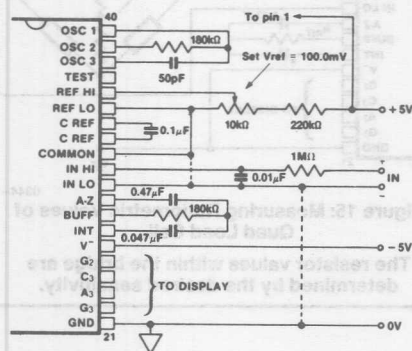

Figure 10: 7137 Using the Internal Reference.
*Values depend on clock frequency. See Figures 10, 11, and 12.